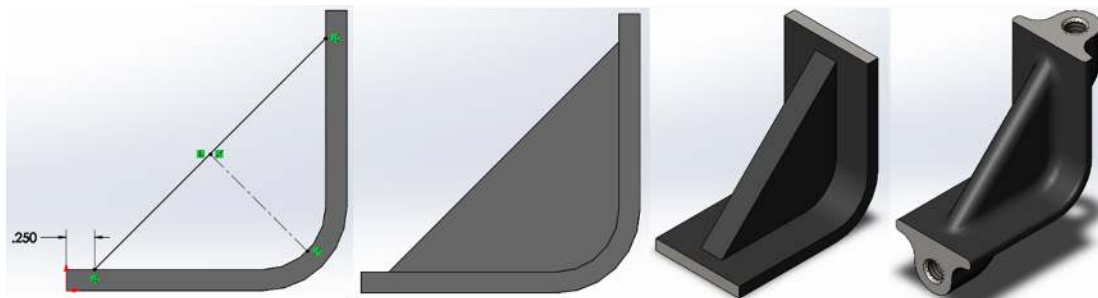

Figure 5.11 Rib Process Example
- Activate the Rib tool straight from within the sketch and specify the rib parameters as shown in figure 5.11.